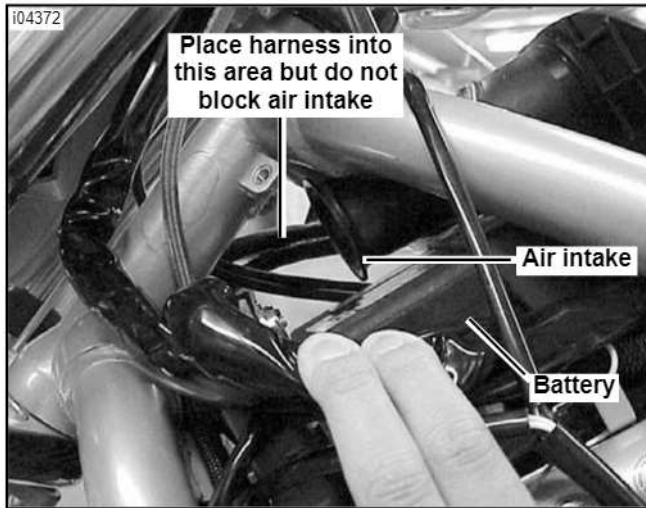

Figure 3. Install Fog Lamp Wiring Harness (VRSC Models)
4. **VRSC models:** See Figure 3. Place the wire harness (7) from the kit into the area in front of the battery. Do not block the air intake opening.